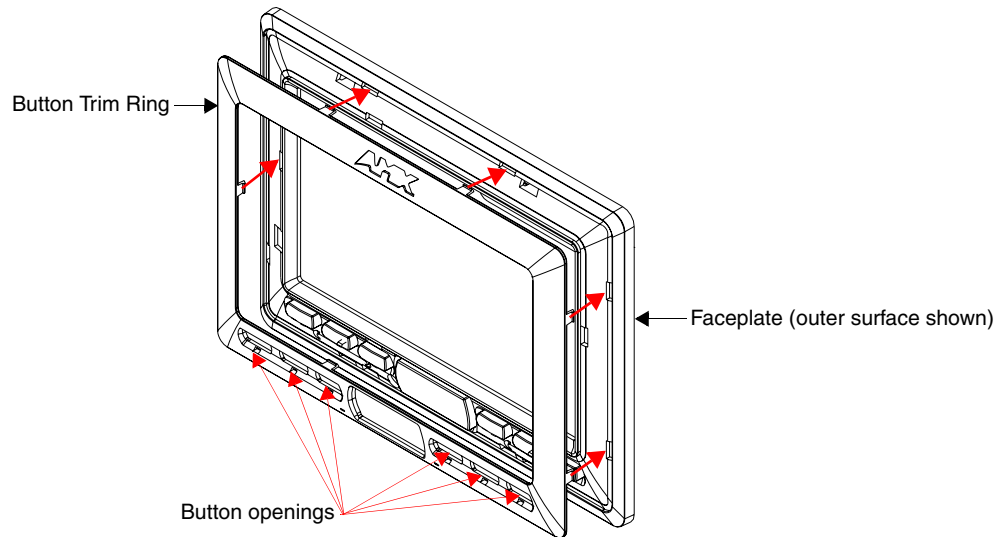

FIG. 33 Inserting the Button Trim Ring
- 8.** Gently insert the Button Trim Ring latches into their corresponding openings on the outer surface of the internal Faceplate (FIG. 33).